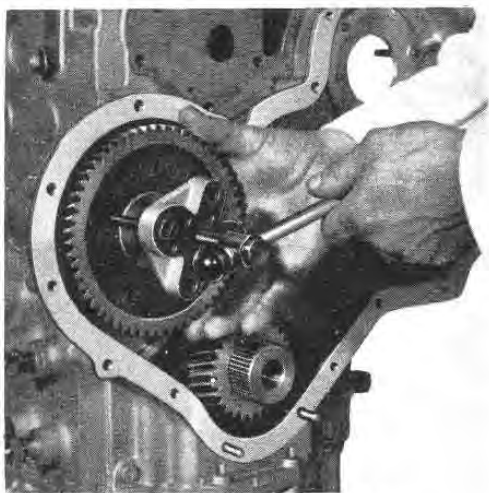

Fig. B41 — Camshaft Gear Removal
3. Using a suitable extractor, remove the camshaft gear (Fig. B41).